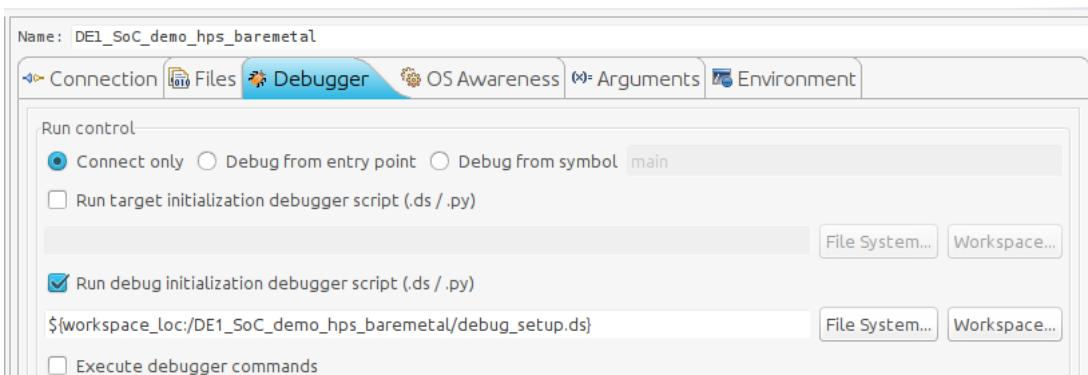

Figure 8-32. Debug Configuration "Debugger" Tab
- Enable the “Run **DEBUG** initialization debugger script (.ds / .py)” checkbox. Set the debug script to the one we defined for the project in 8.4.2.3.2.2. You should have something similar to Figure 8-32.